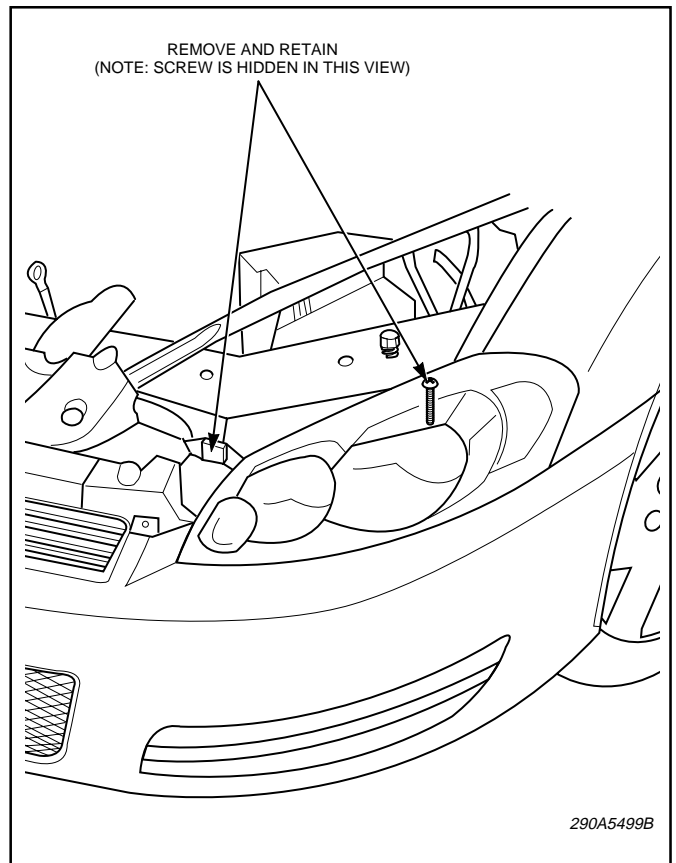

Figure 2.
2. Raise vehicle hood. See figure 2. Remove driver side headlight.